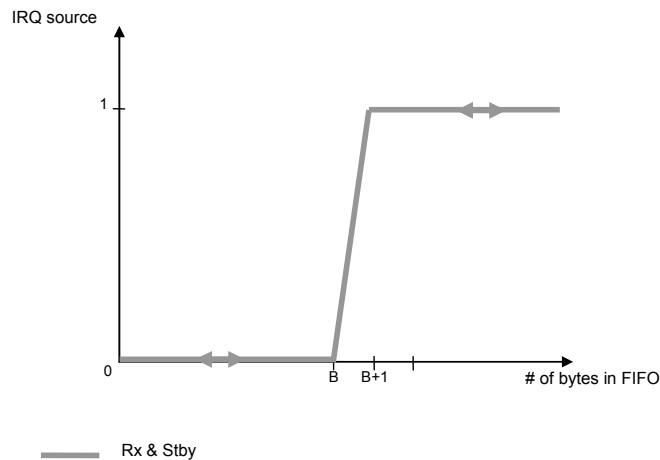

Figure 25: FIFO Threshold IRQ Source Behavior
- `Fifo_threshold`: `Fifo_threshold` interrupt source's behavior can be programmed via `MCPParam_Fifo_thresh` (B value). This behavior is illustrated in Figure 25.